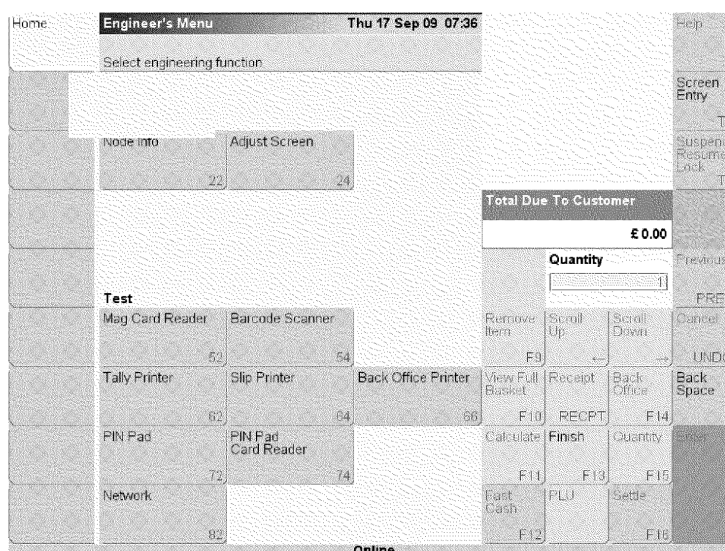

Figure 8
- 1) The Branch Manager should select the 'Engineer' (82) icon. The engineer screen will now be displayed (See figure 8).